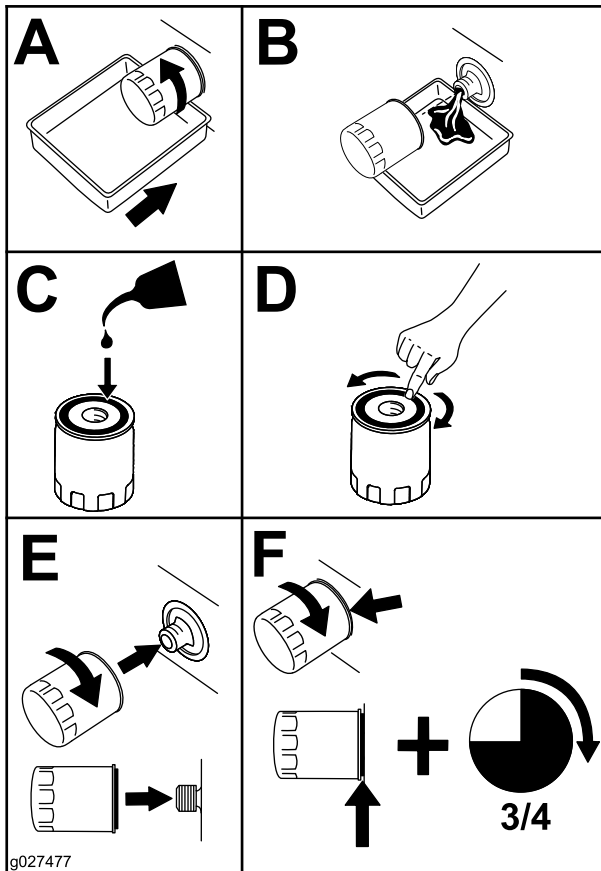

Figure 46
4. Change the engine-oil filter (Figure 46).